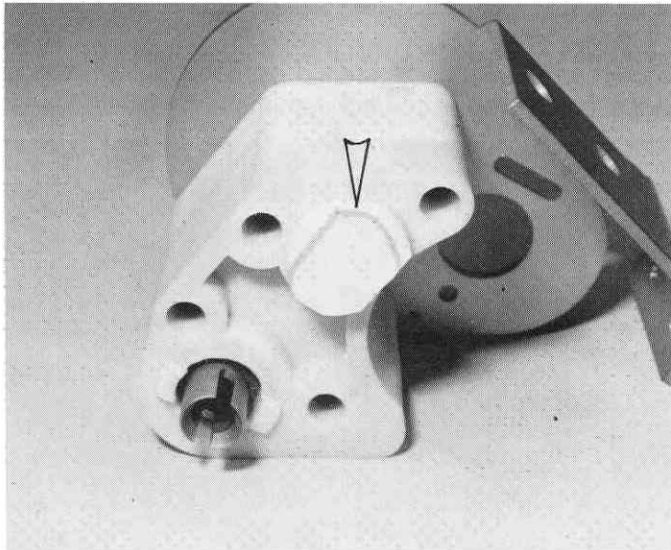

Fig. 98
□ **Fig. 98** Pull the easiest to remove side of the tape off and stick the tape to the housing to act as a dust cover.